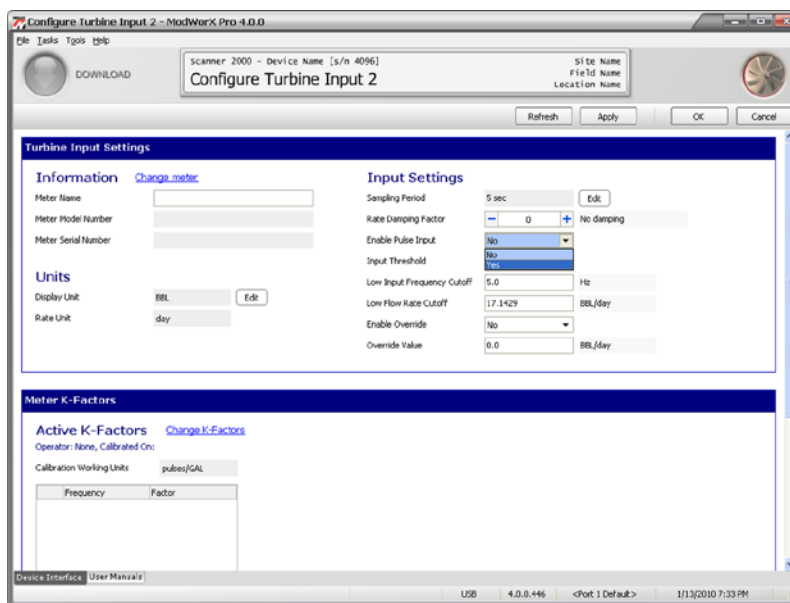

Figure 5.6
1. Select **Turbine Input 2** from the Configure screen. The Configure Turbine Input 2 screen will appear (Figure 5.6).